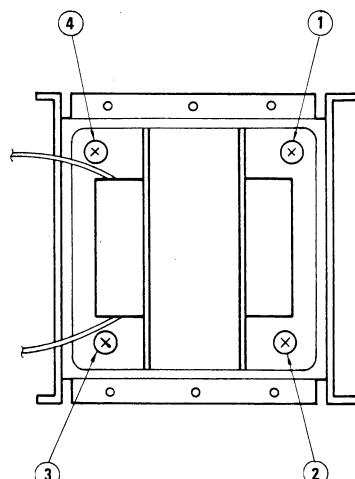

Figure 2
- Remove Power Trace Holder as shown in Figure 2, #1 Photo 3.